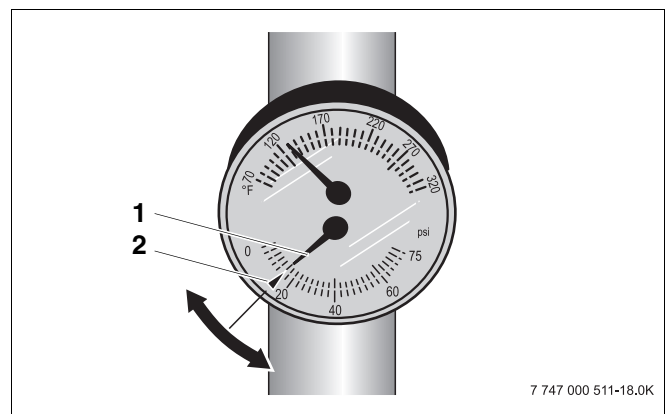

Fig. 15 Pressure temperature gauge
- Set static system pressure to at least 15 psi at indicated on pressure relief valve (→ Fig. 15).